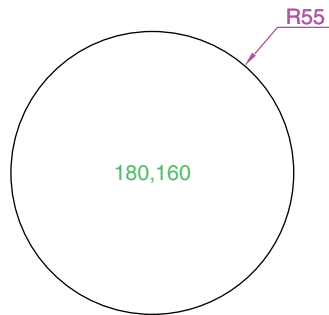

Fig. 2.13 First example – **Circle** tool
First example – Circle tool (Fig. 2.13)
3. *Enter* numbers against the prompts appearing in the command window as shown in Fig. 2.12, followed by *right-clicks*. The circle (Fig. 2.13) appears on screen.